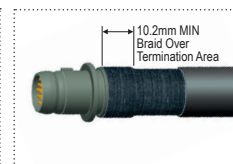

Fig. 2
2. Push braid forward over adapter retention lip to the adapter incline point (10.2mm minimum braid length). Milk braid as required to remove slack and ensure a snug fit around the shield termination area (Figure 2).